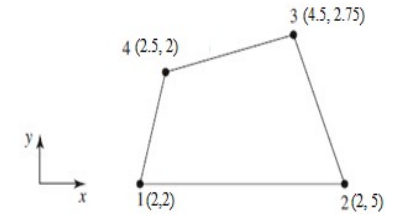

Figure 5
7. (a) Figure 5 shows a quadrilateral element in global coordinates. Show that the mapping correctly describes the line connecting nodes 2 and 3 and determine the (x, y) coordinates corresponding to $(r, s) = (3.5, 1.5)$. Map the line $r = 0$ in the parent element to the physical element. Plot the mapping on a scaled drawing of the quadrilateral element